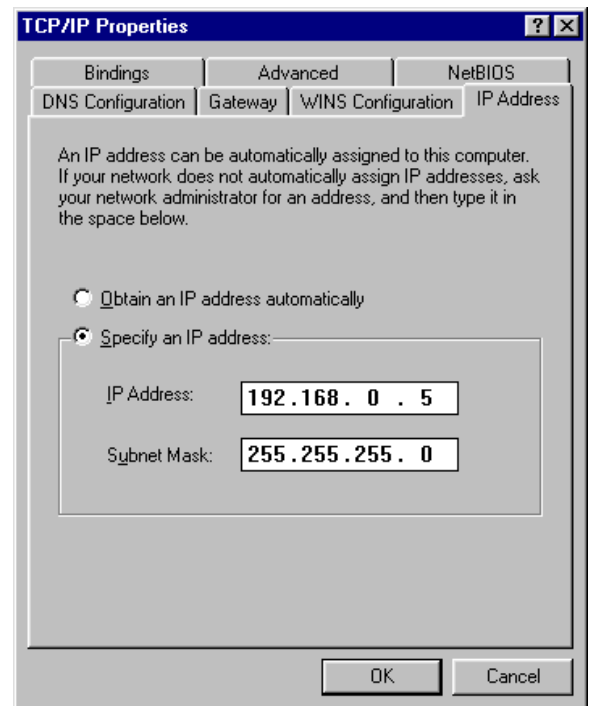

Figure 2
8. Enter an **IP Address** and **Subnet Mask** (see Figure 2)